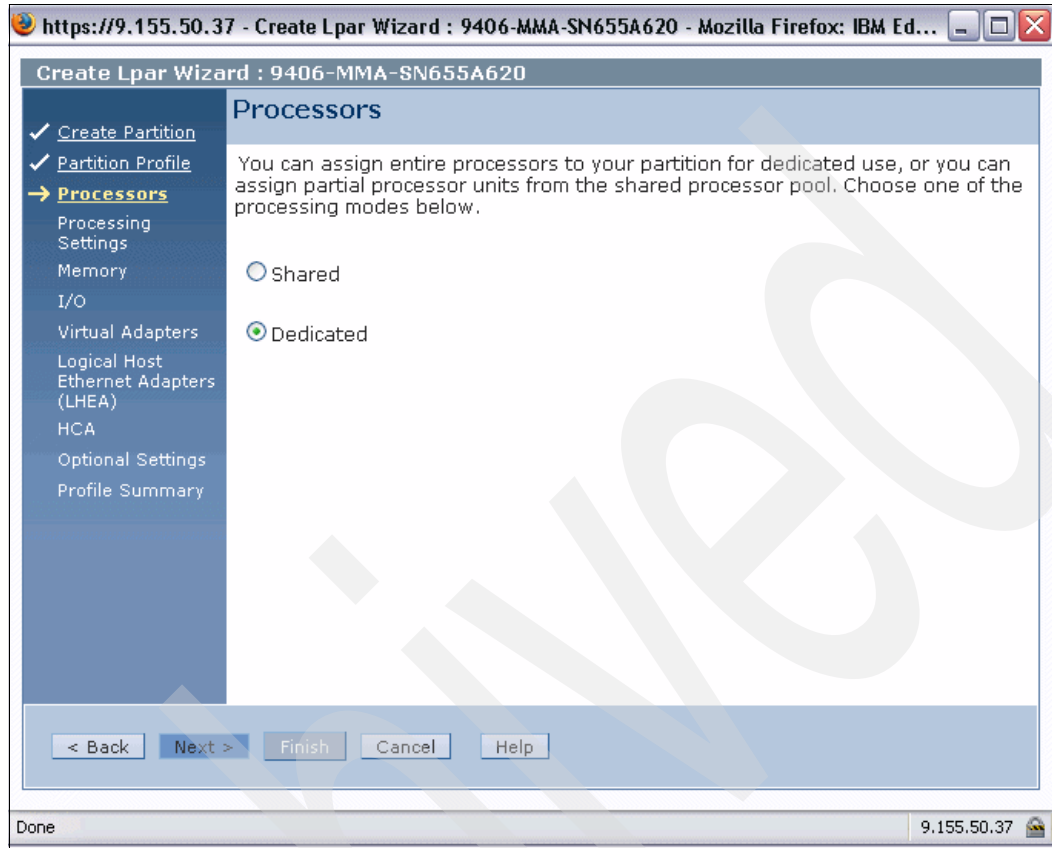

Figure 6-6 Create LPAR Processors dialog
4. For best VIOS partition performance (see 4.2, “Planning for VIOS” on page 90) we select **Dedicated** processors and click **Next** to continue, as shown in Figure 6-6.